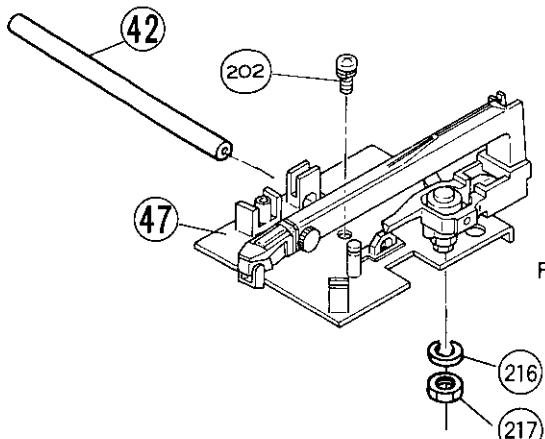

Figure 8
- After removing the Screw (202) described in Fig. 8, remove the Plate Assy (47) by lifting the left end of the Pipe (42).
- Remove the Hexagon Nut (217) and Spring Washer (216) to remove the Tonearm assy (Fig. 8).